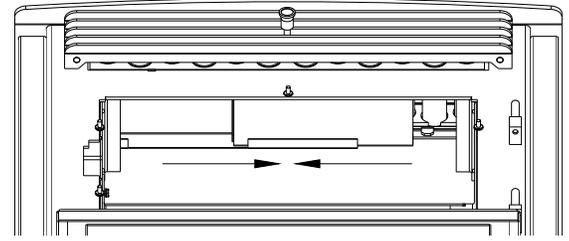

Figure 20
- b. Open the door and remove the baffle from the firebox. Slide each side of the baffle toward the center to remove (Figure 20). Close the door.
- b. **Baffle:** Remove the baffle and scrape off ashes. Slide both sides toward the center to remove the baffle(Figure 20) Use a vacuum if necessary. In some cases, you will need to remove creosote on the baffle, which can accumulate rapidly under certain conditions. A small wire brush can be used. It is important to remove this creosote because it is highly combustible and could cause premature corrosion.